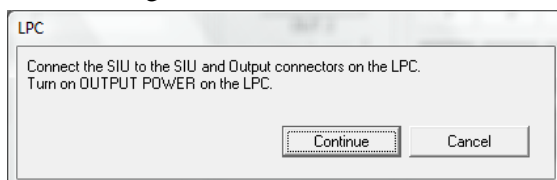

Figure 8. Turn on OUTPUT POWER switch.
9. Follow the instructions on the screen for controlling the **PROG** switch on the LPC, see Figure 8.